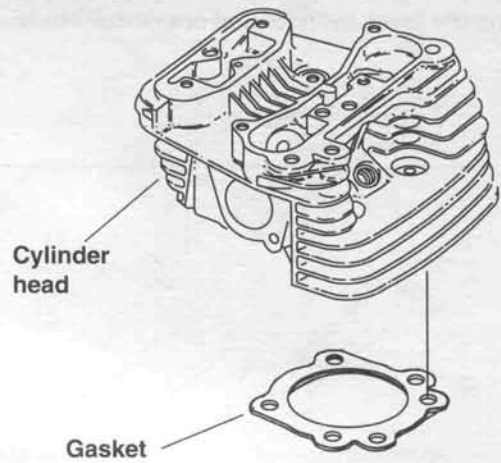

Figure 3-14. Cylinder Head and Gasket
13. See Figure 3-14. Remove cylinder head and head gasket.